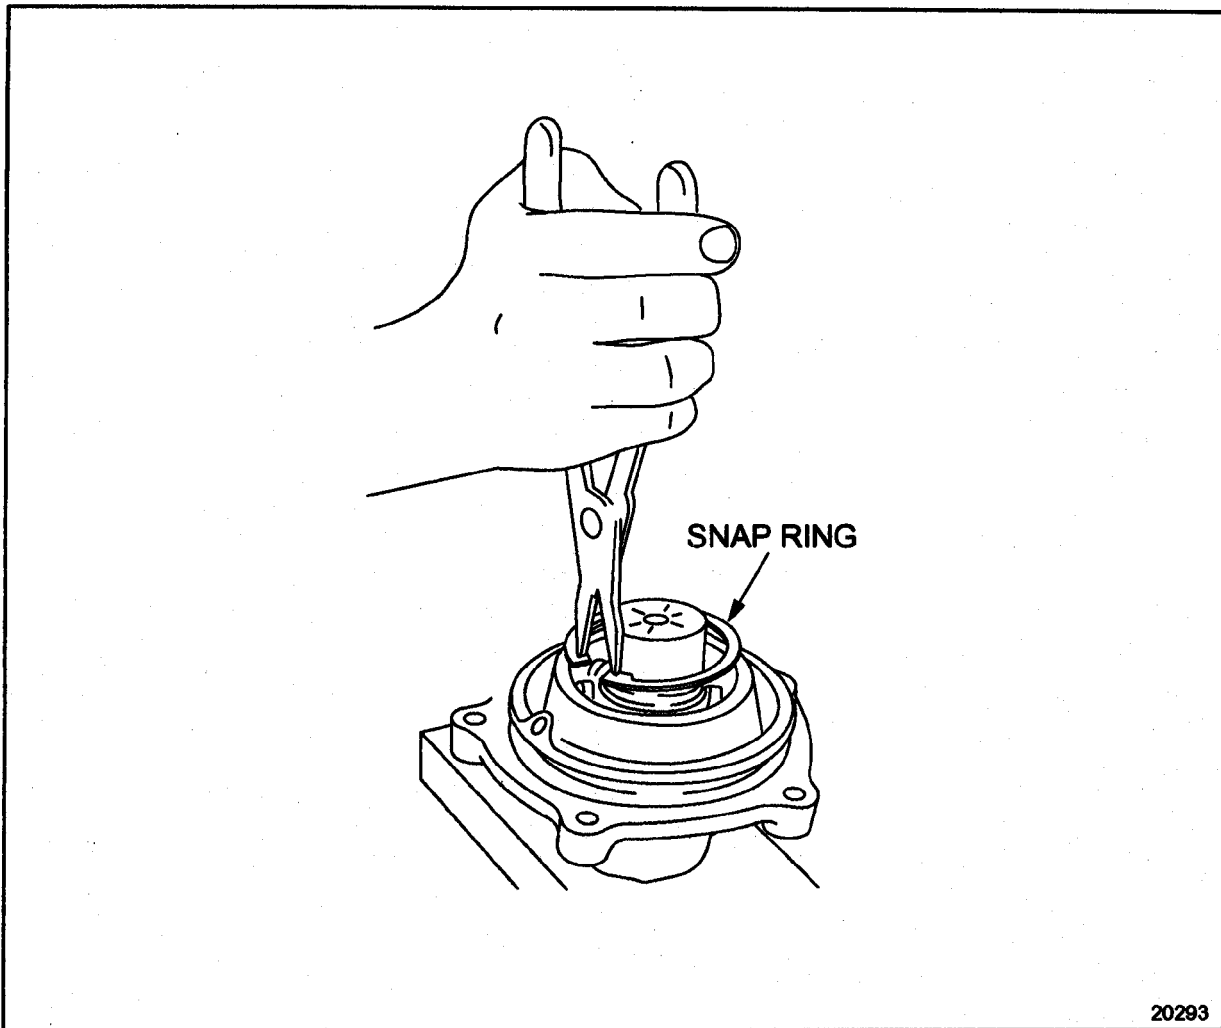

Figure 1-407 Snap Ring Removal
7. Remove the snap ring from the accessory drive housing. See Figure 1-407.
8. Support the holding fixture, J 36024-3 on two steel plates and position the accessory drive housing into the hole in the fixture. See Figure 1-407.